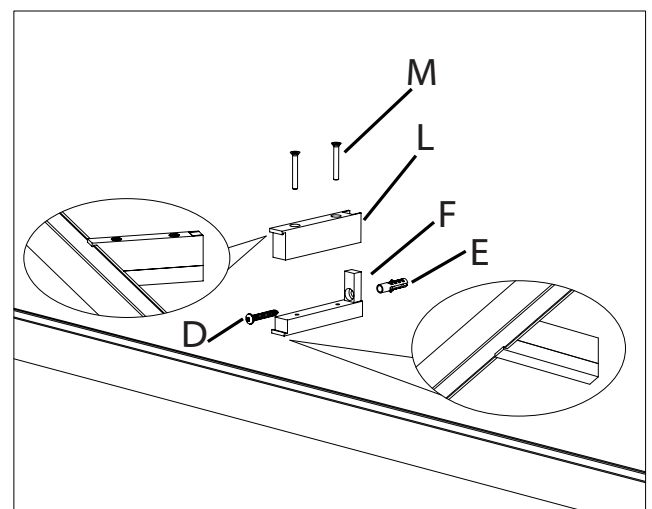

Fig. 3
9. Install the center bracket cover (L) to the center bracket (F), secure using bracket screws (M). Make sure both top and bottom clips secure the fixture (B) (Fig. 3).